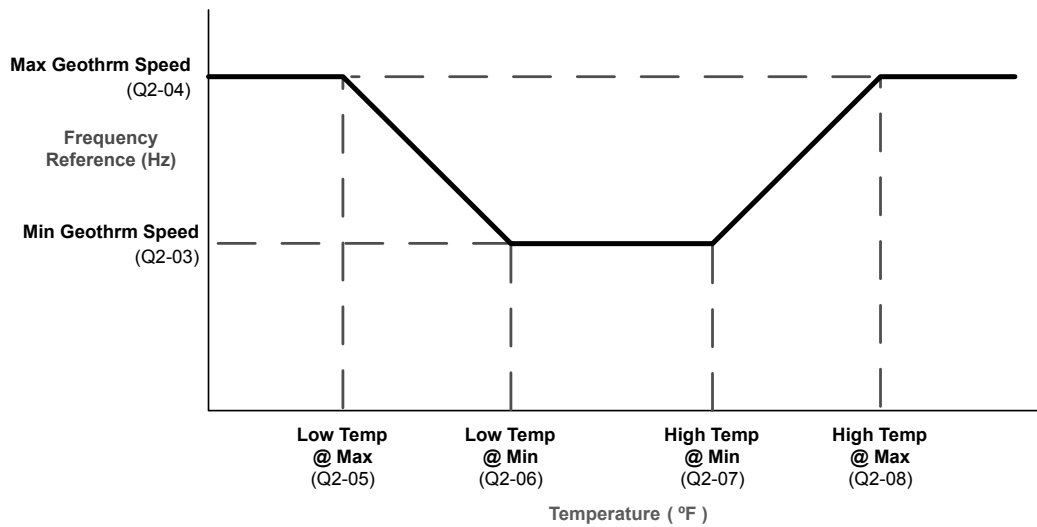

Figure 4.8 Normal Temperature Regulation
7. Set the pump speed-temperature characteristics in Q2-03 to Q2-08. This allows the drive to modulate the pump speed based on the analog input temperature feedback of the water. This will attempt to regulate the water temperature between the Q2-06 and Q2-07 settings. Figure 4.8 shows normal operation.